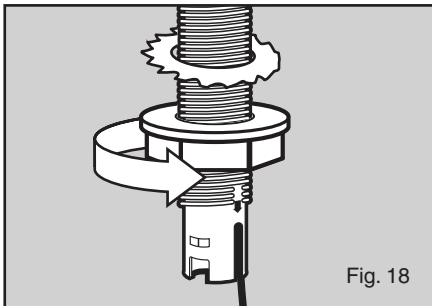

Fig. 18
19. Thread the nut onto the bottom of the threaded soap discharge head and continue turning until both lock washer and nut are secure to the underside of the plastic support ring. (see figure 18)